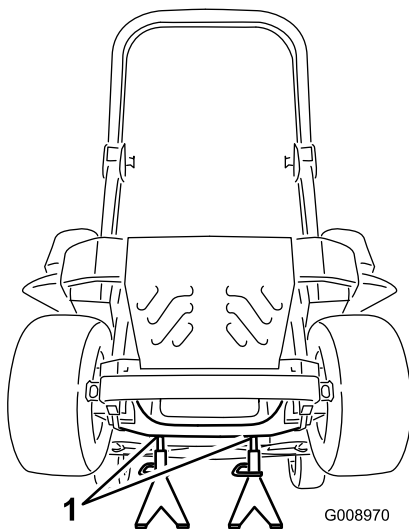

Figure 92
3. Raise the machine and support it with jack stands (Figure 92).
9. Remove the jack stands and lower the machine (Figure 92).